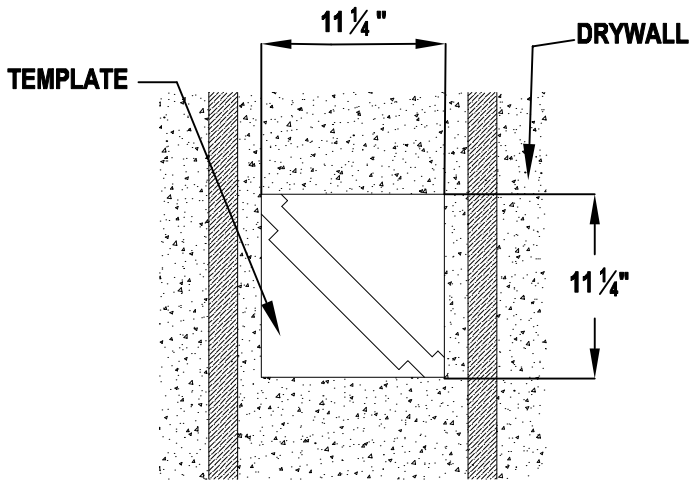

FIGURE 1
1. CUT OUT OUTSIDE SQUARE OF CARDBOARD TEMPLATE LOCATED ON LUMINAIRE BOX. USE TEMPLATE FOR CUTTING LUMINAIRE OPENING (11 1/4" X 11 1/4") IN DESIRED LOCATION BETWEEN STUDS IN DRYWALL. (FIG. 1)